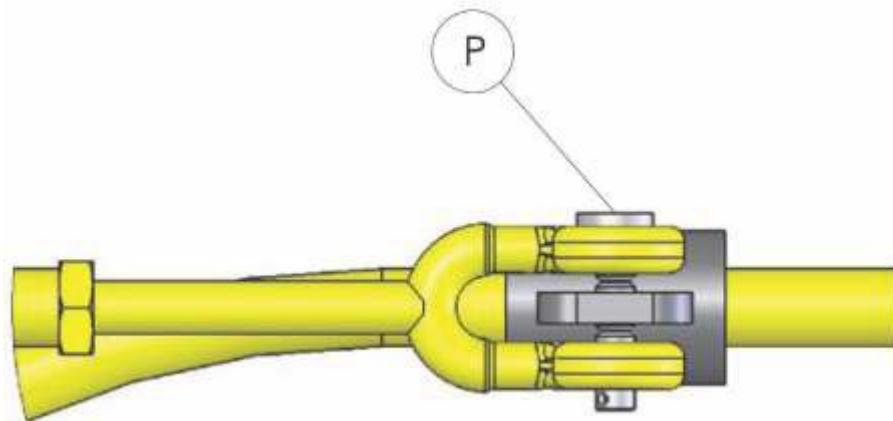

Figure 12
*Every year or 36,000 cycles, the SHEAR PINS (P) Figure 12 should be removed and replaced in each of the turnbuckles.*